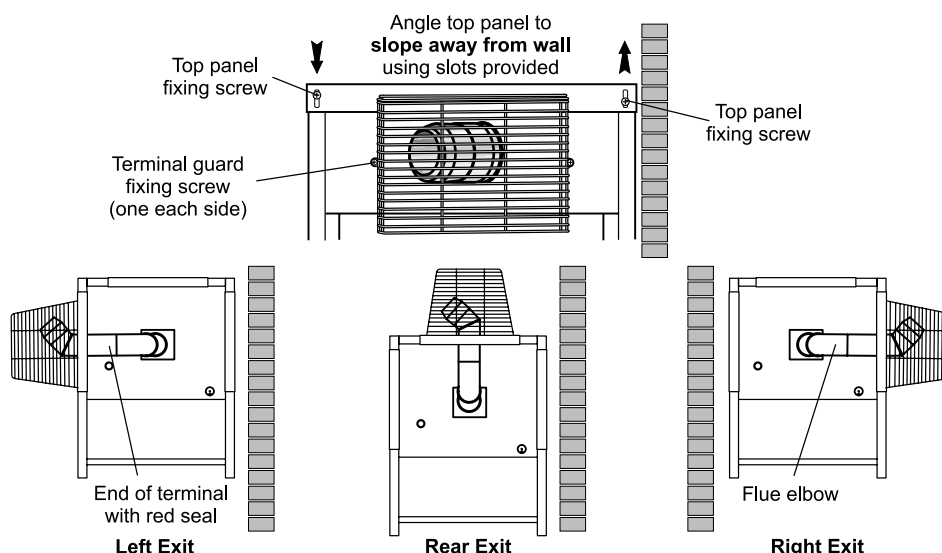

Figure 4-1: Standard low level flue provided with External Module
11. The top panel of the casing has been designed so that it may be fitted to create a slight slope away from the side positioned against the wall. To tilt the top panel, loosen the four top panel casing screws and push down on the side furthest from the wall. Tighten the screws. See Figure 4-1.
1. To gain access to the water connections, remove the two screws securing the back panel and remove it by withdrawing it forwards at the bottom. Remove the top casing panel, see Section 4.7 and Figure 4-1.